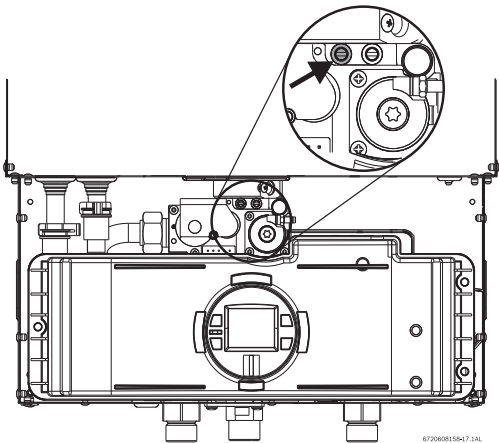

Fig. 34 Gas pressure test port (left tapping)
- Remove front cover and locate inlet gas pressure measuring point (see Fig. 34).